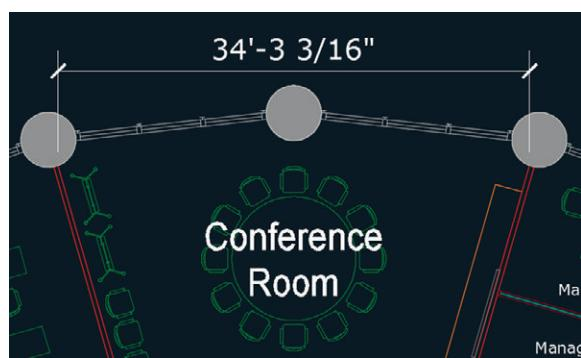

FIGURE 13.8 Moving the $1/16" = 1'-0"$ (or 1:200 in metric) scale dimension line upward for clarity
4. Toggle on AutoScale if it is not already on. Select the $1/16" = 1'-0"$ (or 1:200 in metric) scale button in the Annotation Scale menu on the status bar. Select the larger dimension object and, using one of the dimension line grips at either end of the dimension line, move it upward so that the dimension has longer extension lines. Press Esc to deselect. Figure 13.8 shows the result.